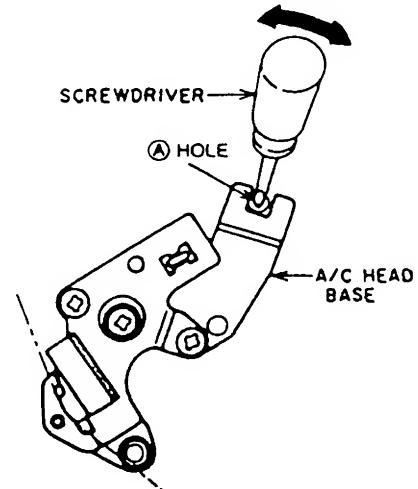

Fig. 4-17
- 4) Loosen the ② screw slightly so that the A/C HEAD PLATE can be moved with reasonable tightness.
- 5) Insert a sharp flat head (—) screwdriver into the A/C HEAD BASE and ④ hole as shown in Fig.4-17.
- 6) Move the A/C HEAD BASE by moving a screwdriver in the direction of the arrow as shown in Fig.4-17 to obtain the maximum RF output, then tighten the ② screw.